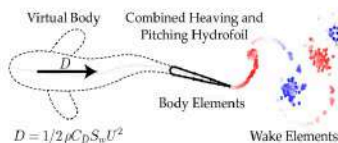

Figure 1. Schematic of the idealized self-propelled swimmer with a combined heaving and pitching hydrofoil [1].
- Aquatic creatures often use flapping fins or jets to achieve efficient movement, offering benefits like reduced cavitation and better maneuverability (Figure 1).